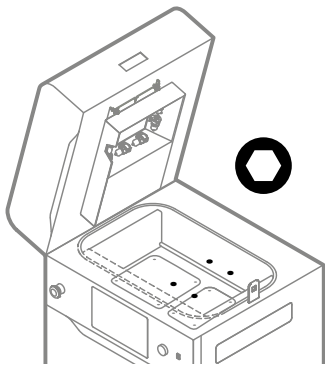

Fig. 12.22 Unscrew the Print Bed screws.
15. Using a 2,5 mm allen key, unscrew and remove four screws securing the Print Bed cover (fig. 12.22).